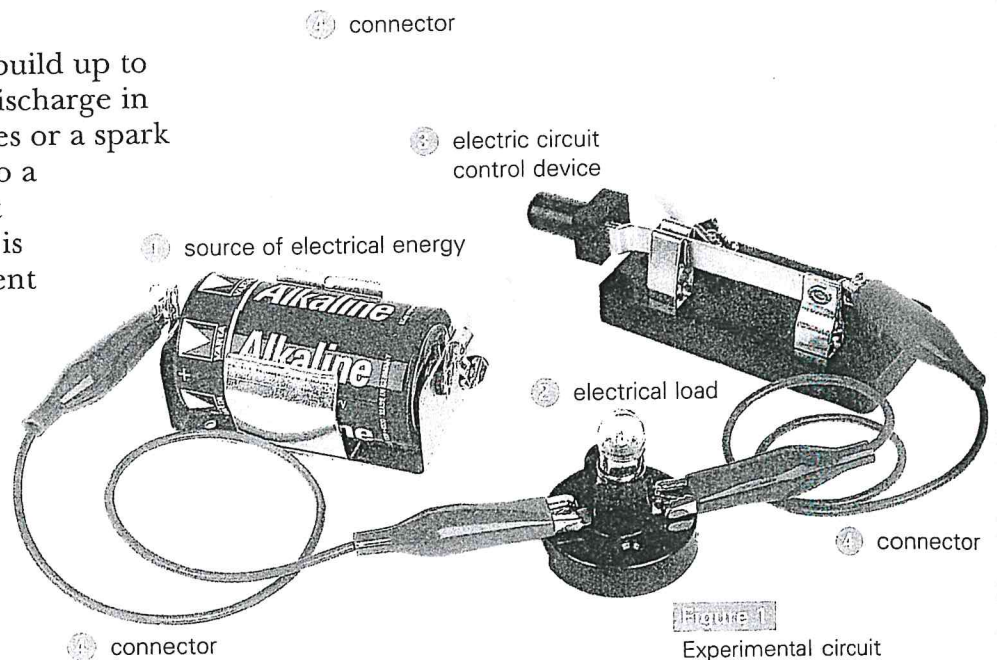

Figure 1
A study lamp, a flashlight, and the experimental circuit shown in **Figure 1** look quite different. However, the electric circuits that operate all three of them are essentially the same. They all have the same four basic parts found in the simple electric circuit shown in **Figure 1**. These four parts are:
Schematic diagram of a closed circuit shown in Figure 1
The words used to describe whether an electric circuit is operating often cause confusion. When a circuit is operating, and current is flowing, there is said to be a **closed circuit**. In the closed circuit shown in the photograph (**Figure 1**), the arm on the switch is connected to the other part of the switch, and the switch is said to be “on.” When the arm of the switch is not connected to the other part of the switch, the switch is said to be “open” or “off” and there is said to be an **open circuit**. The electric current flows in a continuous loop from the negative terminal of the cell, through the wires, the switch, and the light bulb, and returns to the cell’s positive terminal.
3. In which direction does the electric charge flow around the circuit in **Figure 1**? What causes it to happen?